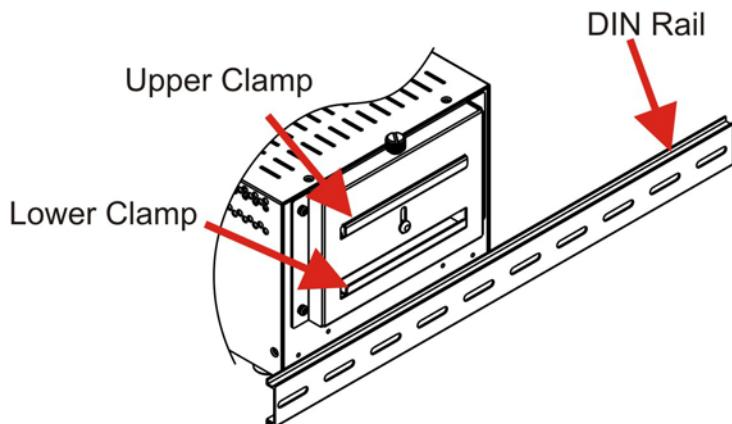

Figure 4-11: Mounting the DIN RAIL
Step 5: Place the DIN rail flush against the back of the mounting bracket making sure the edges of the rail are between the upper and lower clamps (**Figure 4-11**).